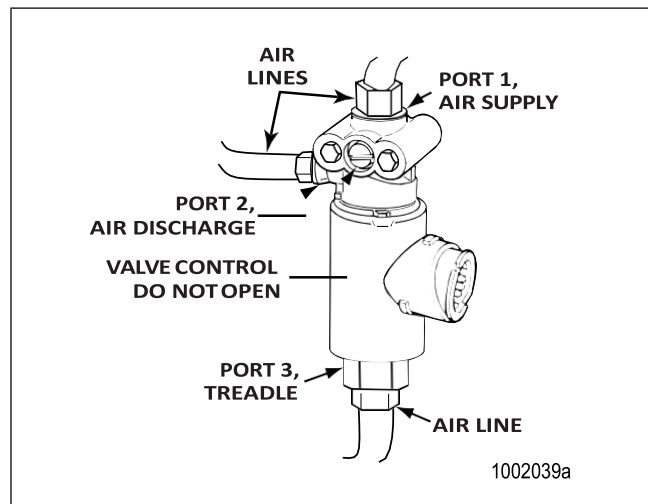

Figure 3.18
- Take measurements at the ABV pins directly to verify the component. Figure 3.18.